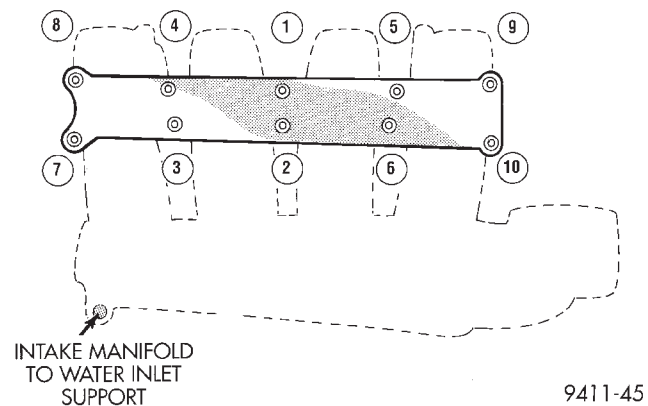

Fig. 24 Intake Manifold Tightening Sequence—2.0L Engine
(12) Remove the intake manifold to inlet water tube support fastener (Fig. 24).
(13) Remove intake manifold fasteners and washer assemblies. Remove intake manifold.
(1) Install new intake manifold O-ring seals. Tighten fasteners to 12 N·m (105 in. lbs.) in sequence shown in (Fig. 24).
(2) Remove covering from fuel injector holes and insure the holes are clean. Install fuel rail assembly